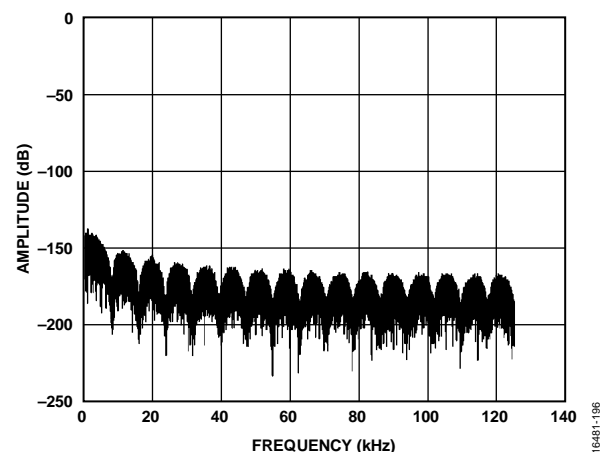

Figure 96. Example Filter Profile Upload
The following sequence programs a sinc1 filter. The coefficients in Address 0 to Address 23 = 0. The coefficients from Address 24 to Address 55 = 131,072 ( $2^{22}/32$ ). When MCLK = 16.384 MHz and ODR = 256 kHz, the filter notch appears at 8 kHz and multiplies of 8 kHz. This filter provides low noise and is recognizable by the distinctive filter profile shown in Figure 96.
17. Gather data. The resulting filter profile is shown in Figure 96.